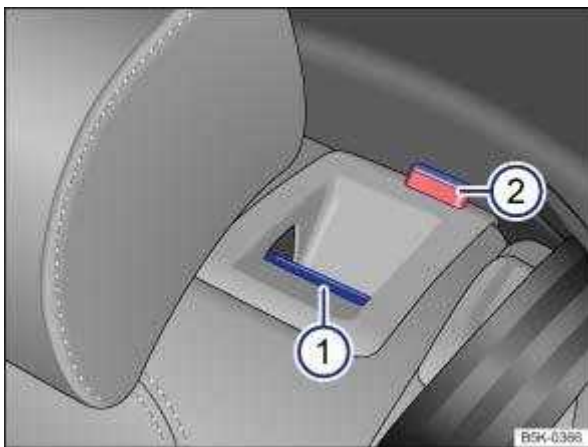

Fig. 71 In the rear seat backrest: release button.
Pull the release button ⇒ Fig. 71 ① forwards and fold the rear seat backrest forwards at the same time.
The respective section of the rear seat backrest is unlocked when you can see the red marking ⇒ Fig. 71 ② .
The red marking on the release button must no longer be visible ⇒ Fig. 71 ② .